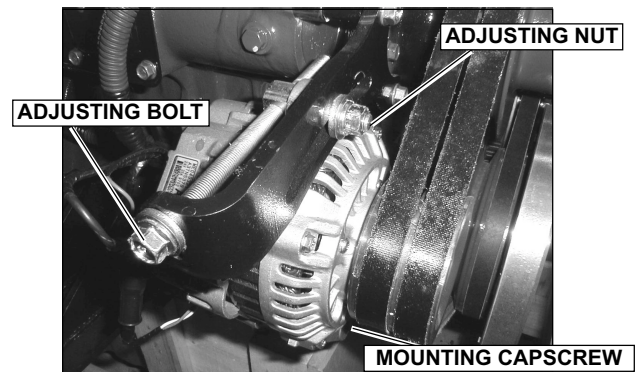

FIGURE 4.38B
- a. Loosen mounting cap screw and adjusting nut on the alternator. See Figure 4.38B.
- b. Loosen or tighten adjusting bolt to adjust fan belt to the specified tension, and tighten mounting nut and adjusting nut properly. See Figure 4.38B.